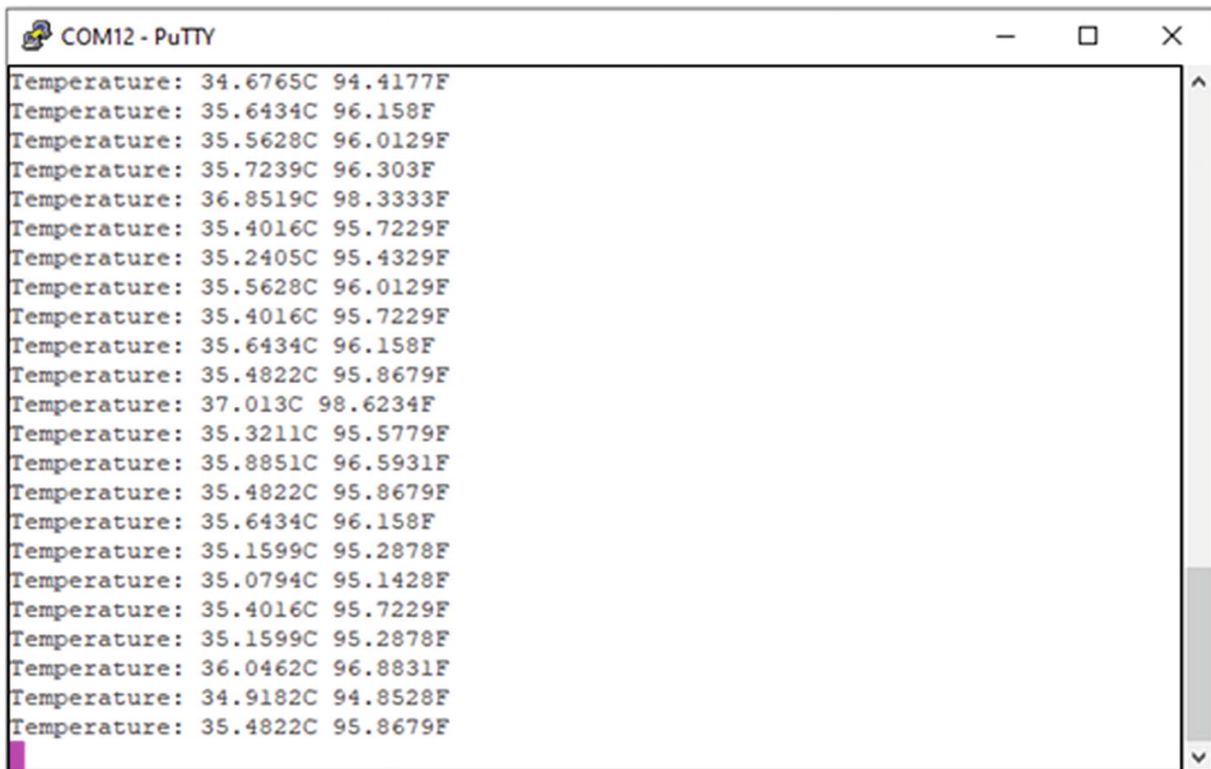

Figure 6-14 Temperature Sensor Output
In the program, we do our usual imports to get the board up and running. At (1) we set up the temperature sensor connected to the analog input pin A0. At (2) we have a function for reading the temperature sensor and doing the conversions from voltage to temperature. At (3) we create an instance of the analog object for the temperature sensor. In the main program, we run a super loop at (4) where we read the sensor data and print it to the output consoles every second. If you look at your serial console, you should get an output similar to the output I got in Figure 6-14.